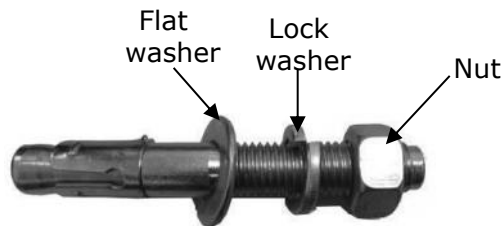

Fig. 33
- 2. Prepare the anchor bolts (See Fig. 33).